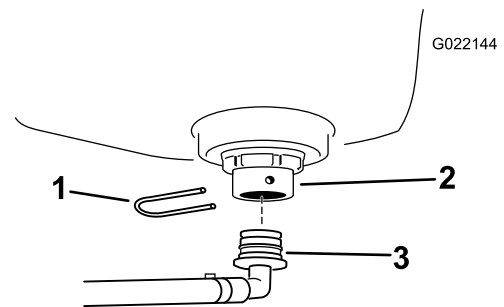

Figure 13
2. Install the rinse tank hose barb to the bulkhead fitting so that it faces the hole in the sprayer frame, and secure it with a retaining fork (Figure 13).